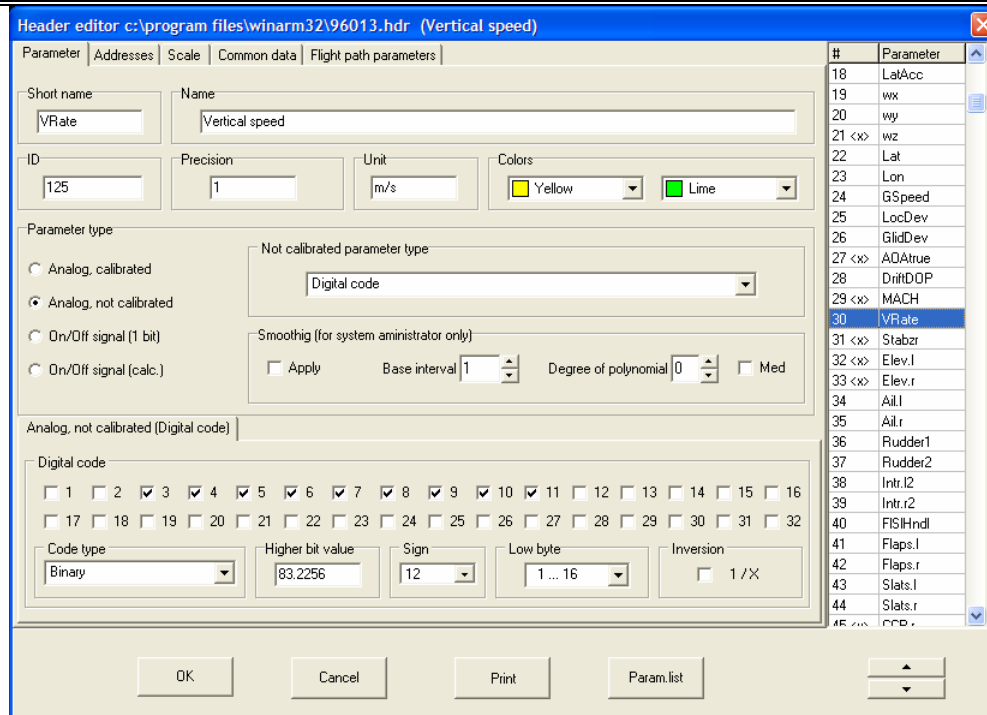

Figure 9.23
The **Parameter** page will look like it is shown on Figure 9.23 after selecting this type of parameter.
This type is widely used for example on MSRP-A-02 FDR. Vertical speed or pitch rate registration on Il-96 aircraft are examples of this type. (Figure 9.23). The bits from 16-bit information word that will make code value of the parameter have to be checked in the **Digital code** field. The value of the **Code type** field should be set to **binary**. To include a particular bit just check the appropriate box. After selecting all the significant bits the value of the least significant bit **or** most significant bit has to be set. For example, the value of the most significant bit is specified on the Figure 9.23. To change from the least significant bit to the most significant bit just click on the caption of the field. A bit where the sign is coded has to be specified in the **Sign** field. If the current parameter has no sign (for example radio altitude) **none** item must be selected.
***Note:** If the current parameter has the sign this bit should be excluded from number of bits that make code value of the parameter. It means that if any parameter is described as 10-bits parameter with the sign bits from 3 till 11 must be checked and value of the **sign** field must be 12 (Figure 9.23).*